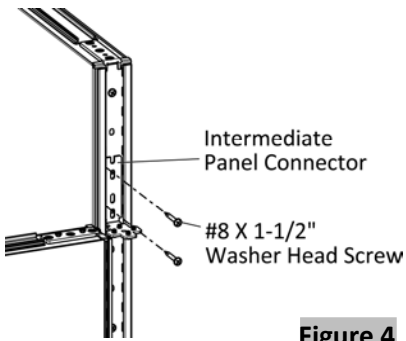

Figure 4
- 8. Position the 90-degree filler connector at desired location, (Figure 4).
- 6. Drive two #8 X 1-1/2" Washer Head Screws through the holes in intermediate panel connector into the taller panel, (Figure 4).